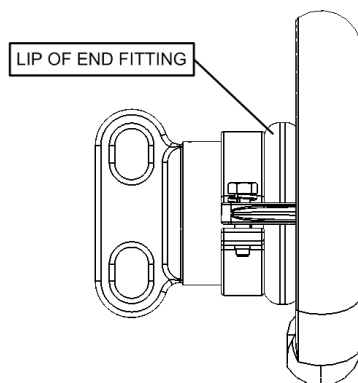
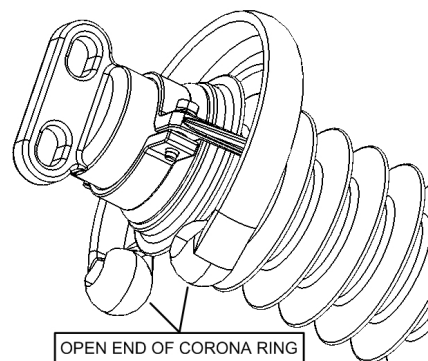

Figure 2 – Proper Attachment of Corona Ring to End Fitting
Figure 3 – Corona Ring Mounted on a Line Post Insulator
- B. Seat the corona ring clamp on the lip of the end fitting (refer to **Figure 2**) so that the inner radius of the ring surrounds the insulator sheds (refer to **Figure 3**). If there is no lip on the end fitting, place the clamp close to, but without touching, the rubber on the insulator.
- D. **Verify the orientation of the corona ring.** For Line Post designs, the open end of the corona ring on the insulator should be facing downward (refer to **Figure 3**).